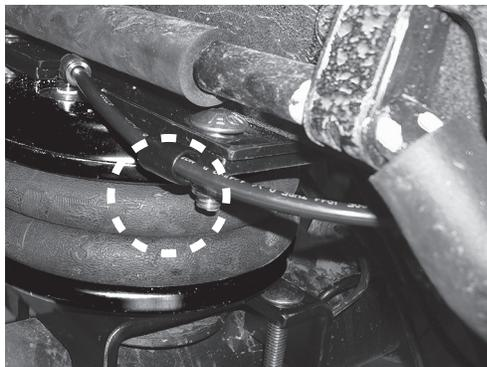

fig. 23
2. Use zip ties to secure the air line to fixed points along the chassis. Do not pinch or kink the air line. Leave at least 2" (51mm) of slack in the air line to allow for any movement that might pull on the air line. The minimum bend radius for the air line is 1" (25mm) (Fig. 23 & 24).